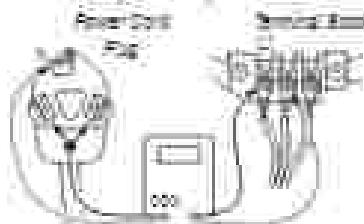

Figure 2c - Plug-to-terminal connections for electric dryer.
3. With an ohmmeter, check for continuity between the neutral (N) terminal of the plug and the center terminal on the terminal block. See figure 2c.